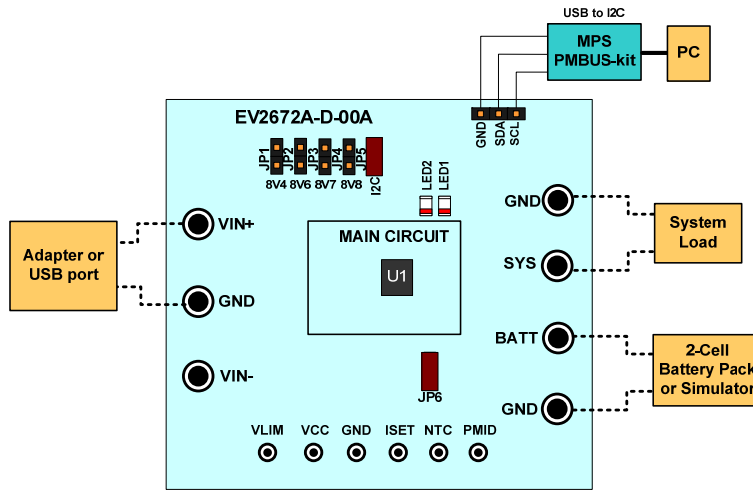

Figure 2: Test Set-Up for the MP2672A in Host-Control Mode
Figure 2 shows the set-up for host-control mode. For this mode, connect the CV pin to the VCC pin. The battery-full voltage and charge current are set by the I2C register.
- 4) Configure the test set-up for the MP2672A (see Figure 2).